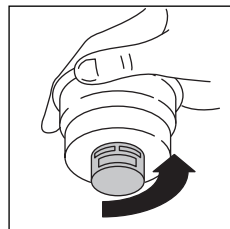

fig. 25
- Remove the crema enhancer cup (fig. 25) by unscrewing in the direction indicated by the arrow on the cap.